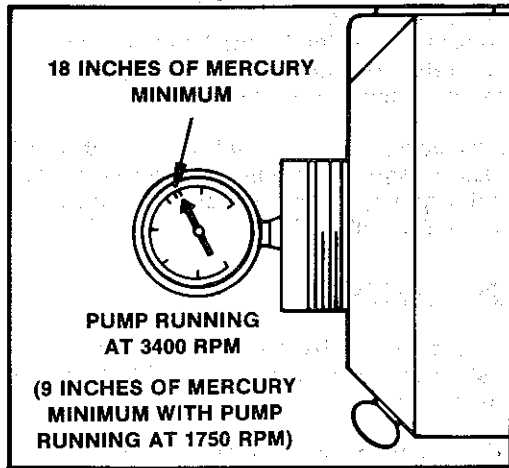

FIGURE 4.
2. Disconnect suction and discharge lines at pump. Fill pump with water and check suction with a vacuum gauge. Vacuum should exceed 18" (see figure 4) of mercury when pump shaft is rotating @ 3400 RPM. Vacuum should equal or exceed 9" of mercury when pump is running @ 1750 RPM. If vacuum is insufficient, check the following:
- e. Check for worn impeller and or volute. If necessary, replace these parts. (See items 14 and 15 of section V).